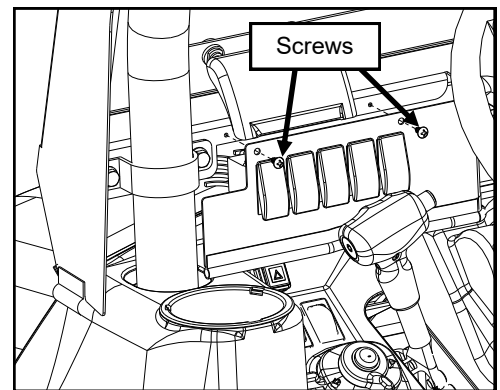

Fig. 8
8. Once all wires are properly routed, attach the switch panel to the windshield frame using (2) #10 x 1/2" sheetmetal screws as shown in figure 8.